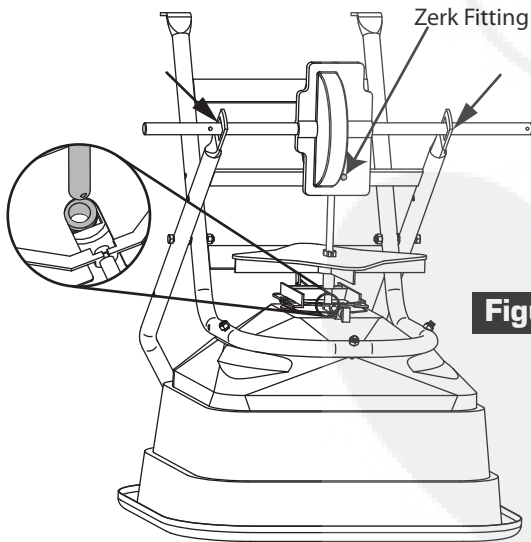

Figure 2
2. Insert Axle Assembly into square holes on the Axle Support as shown in Figure 2.